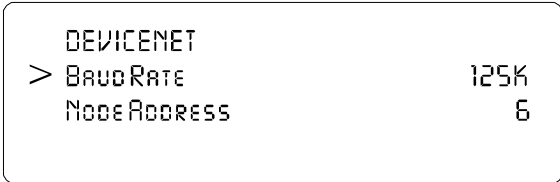

FIG. 40: DEVICENET SUB-MENU/SETTING THE BAUD RATE
- Step 6. Press the Enter button. The Devicenet sub-menu appears. (See Fig. 40)
- Step 7. Use the up or down arrow to move the cursor in front of “Baud Rate”. (See Fig. 40)